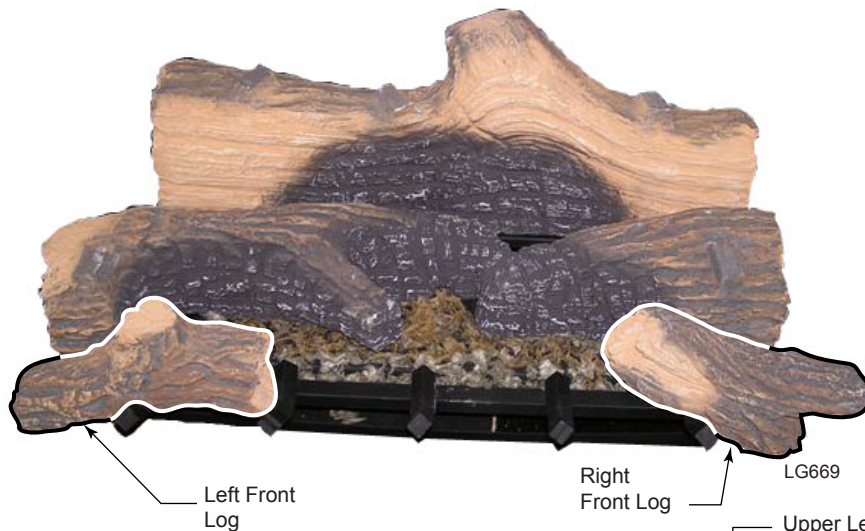

**Figure 62 -
- Place the front left log by setting the notch on the bottom of the log on the very far left tong of the grate, and resting the right end of the log onto the second left tong of the grate. *Figure 62*
- Place the front right log by setting the notch on the bottom of the log on the very far right tong of the grate and resting the log on the leg of the grate. *Figure 62*